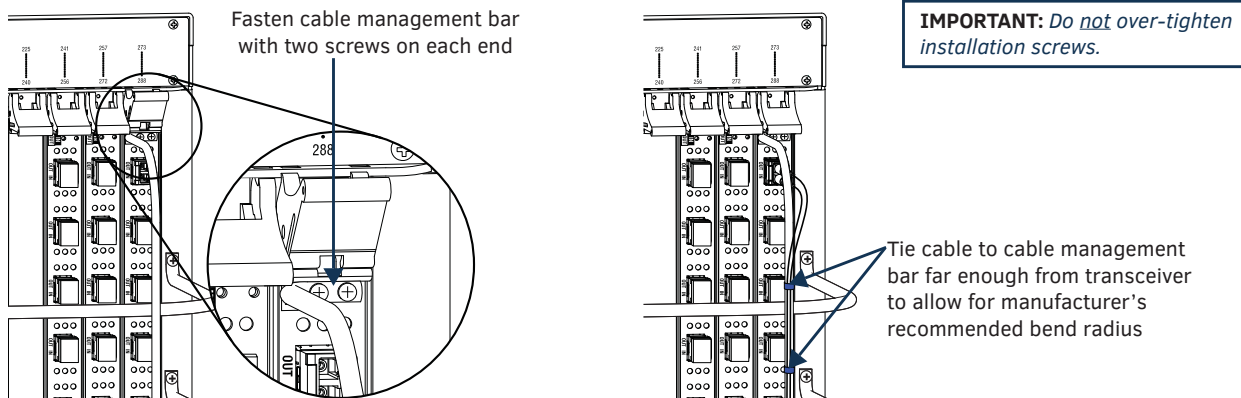

FIG. 20 Installation of cable management bars
1. Align the two screw holes on the end of the cable management bar with the two screw holes on the end of the board as shown in FIG. 20. (Note the position of the long part of the bar in relation to the screw holes.)